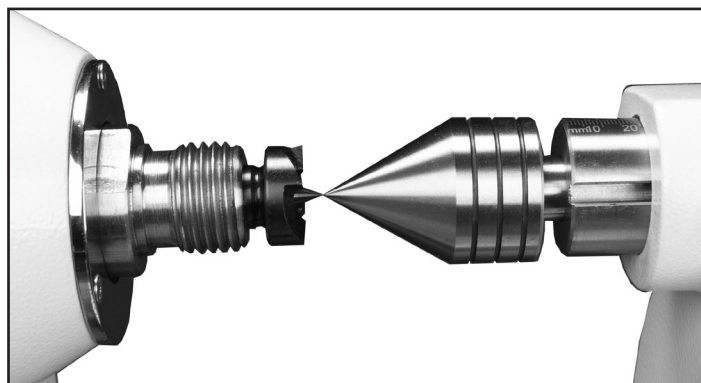

FIG. 37
1. Slide the tailstock towards the headstock until the center point of the live center almost touches the headstock's spur center. Figure 37.